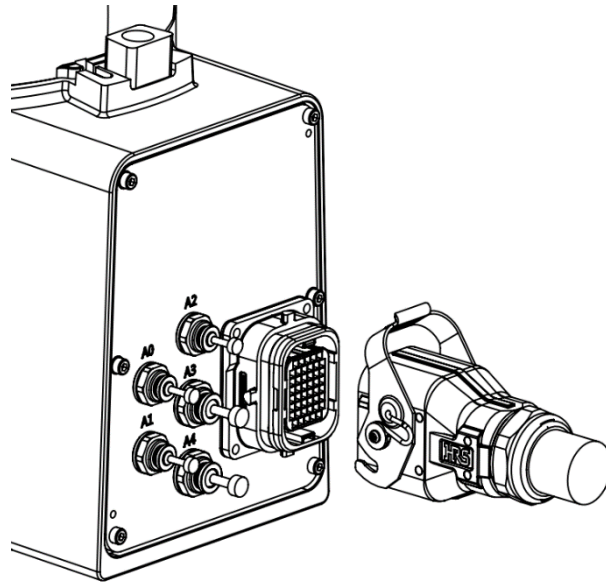

Figure 6-6 Manipulator side heavy load line connection interface
- Step1. Connect the manipulator, insert the plug at one end of the heavy-load line into the connection port of the manipulator's heavy-load line (see Figure 6-6), and fasten the lock;